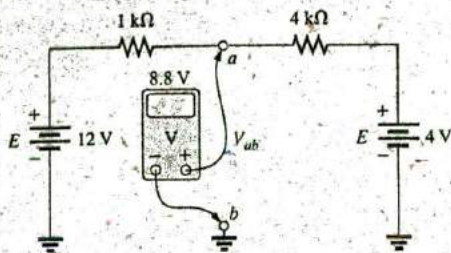

FIG. 6.115
46. Referring to Fig. 6.115, find the voltage V_{ab} without the meter in place. When the meter is applied to the active network, it reads 8.8 V. If the measured value does not equal the theoretical value, which element or elements may have been connected incorrectly?